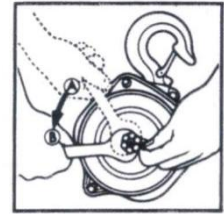

FIGURE 7
- **To Adjust Brake:**(See Fig.7)